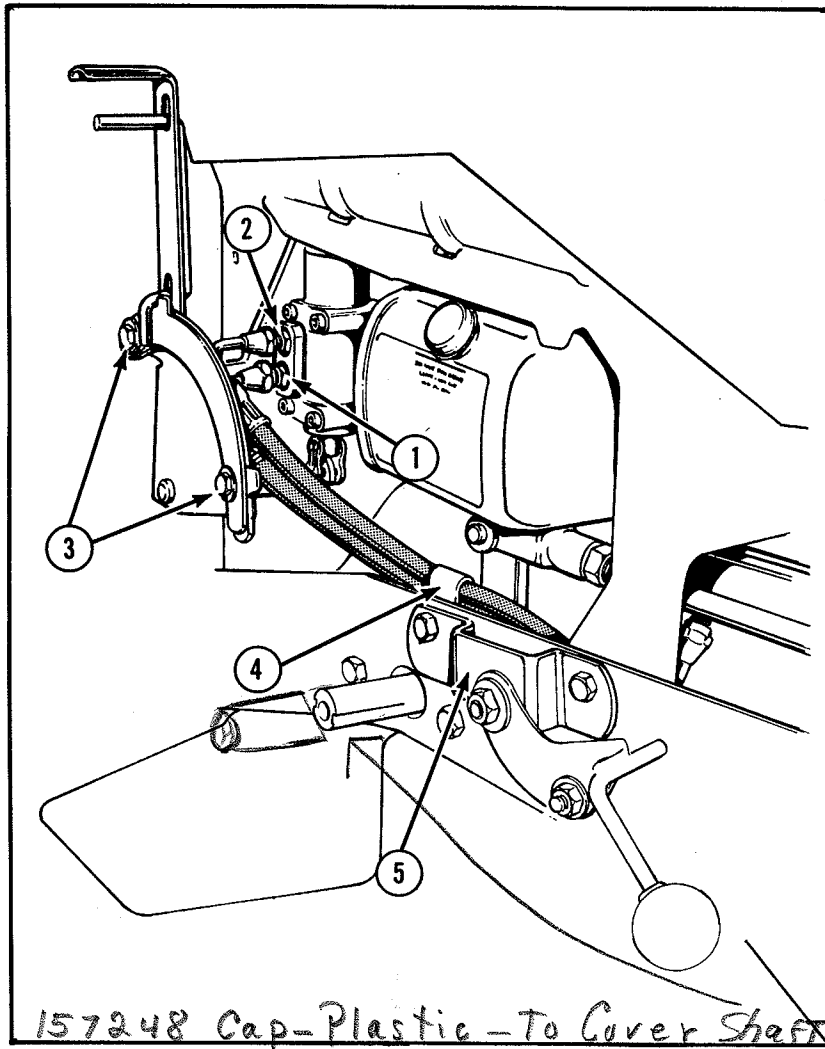

FIGURE 7
See Page 7 Figure 7 for 157248-Cap, Plastic
- I. Remove the protective slugs from the hose fittings, and attach the longer hose from the rear cylinder fittings to the bottom fitting on the valve assembly (1, Fig. 7 & 7 A) (NOTE: The hose end with 90° bend goes to the cylinder, and the end with 114° bend goes to the valve assembly).
- J. Attach the shorter hose from the front cylinder fitting to the top fitting on the valve assembly (2, Fig. 7). (Check to be sure there is no inter-
Install the clamp (4 Fig. 7) to hold the hoses securely in position.
- K. Attach PTO clutch lever bracket (5 Fig. 7) to side of frame, and re-assemble PTO lever as shown.
The rear mounted tiller attachment should be operated only in the rear "float" position. Do not operate the tiller in the "hold" position, as difficulty would result if an obstacle were encountered. This would raise the rear wheels off the ground and propel the tractor forward at a dangerous rate. To get in or out of either "float" position, squeeze the release bar handle upward to clear the index tab. (3, Fig. 7)